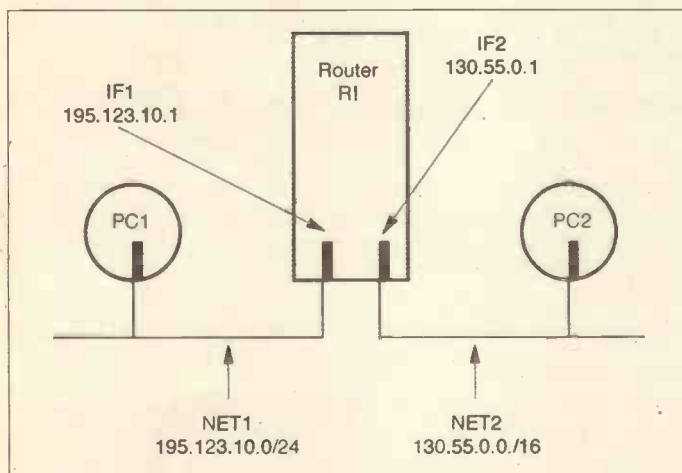

Fig. 1: A router with two interfaces connected to two networks.
A router has two or more network interface cards, usually known simply as interfaces, see Fig. 1. Each interface (IF) is connected to a network that has a different network address. Routing information, in the form of network addresses, their subnet masks and the route to the network, is held in a routing table. In Fig. 1 interface IF1 is connected to network 195.123.10.0/24 (subnet mask 255.255.255.0) while interface IF2 is connected to network 130.55.0.1 (subnet mask 255.255.0.0). By default, the router will know of the existence of the two networks and will enter them in its routing table, as shown in Table 1.
Table 1: Routing table for R1, Fig. 1